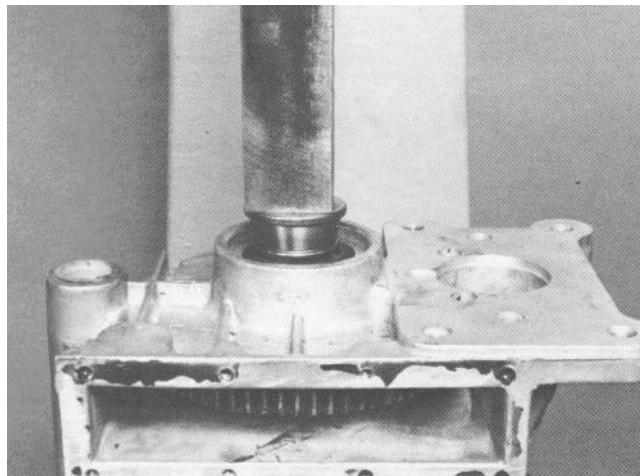

Figure 45
9. With a hollow press sleeve of proper diameter, press on the outer bearing cone race until the drive pinion seats in the carrier and a slight drag is felt when the gear is rotated by hand (Fig. 45). If more than 2–13 in-lbs. (.2–1.5 Nm) torque is required to rotate the pinion and spur gear, tap the pinion shaft with a soft mallet until the drag is reduced.